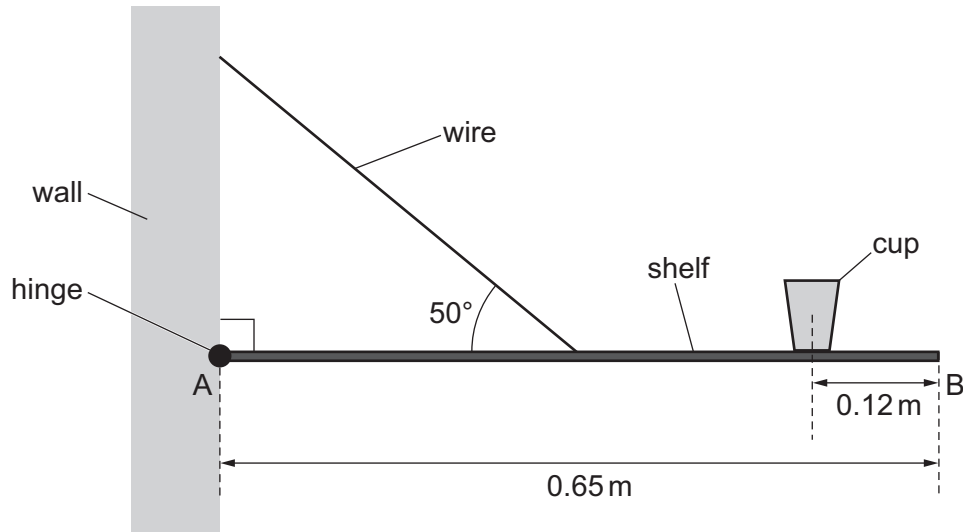

Fig. 3.2 (not to scale)
- (c) A wire is used to hold a uniform shelf AB horizontally in equilibrium as shown in Fig. 3.2.